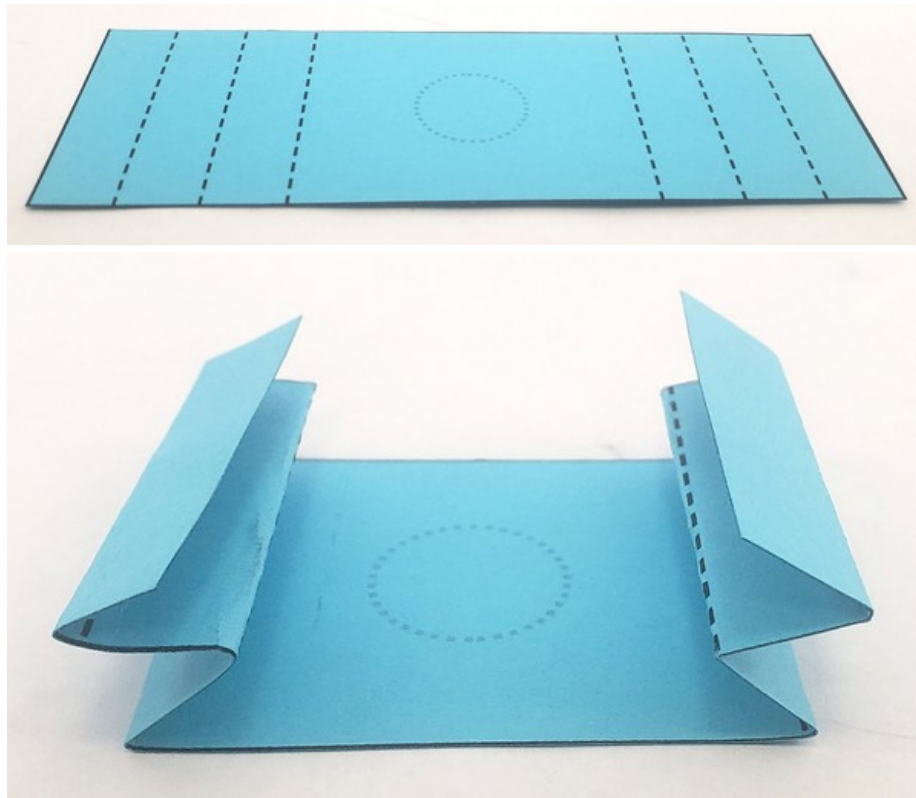

Figure 11. Top: rectangular template piece before folding. Bottom: piece after folding into accordion shape.
10) Fold the large rectangular piece from the template along the dashed lines. Begin by folding the edges of the paper inwards and continue back and forth to form an accordion shape (Figure 11).